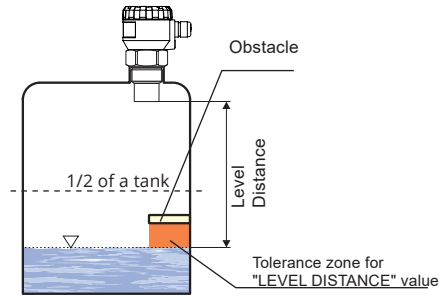

Fig. 21: Level distance zone „Set level distance“
2. Now it is shown the item "TEACHING". By pressing **OK** set the value "DISTANCE TO LEVEL" – supposed distance from the face of the sensor to the medium level. If the distance to the level is not precisely known, enter a value rather lower (in the tolerance field as shown in fig. 21).